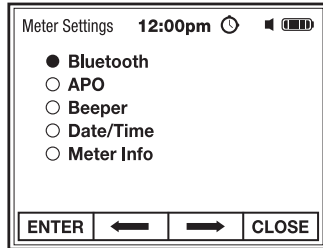

Fig. 21
2. Use the soft keys to select and ENTER desired setting (Fig. 21).
1. From Meter Settings, select and ENTER Bluetooth (Fig. 21).
1. From Meter Settings, select and ENTER APO (Fig. 21).
1. From Meter Settings, select and ENTER Beeper (Fig. 21).
1. From Meter Settings, select and ENTER Date/Time (Fig. 21).